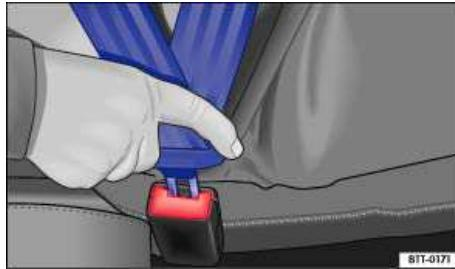

Fig. 65 Inserting the buckle tongue into the belt buckle.
- Insert the tongue into the correct buckle for your seat until you hear it latch securely ⇒ fig. 65.